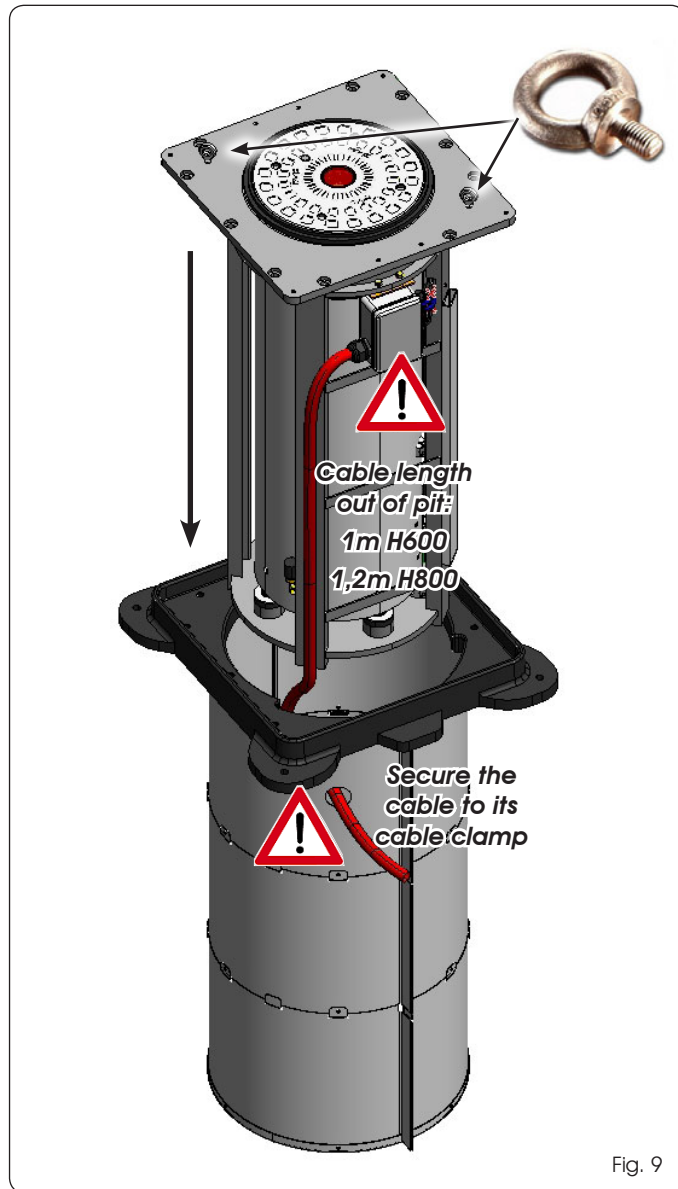

Fig. 9
**Take special care when positioning the cable between pit and bollard during the descent as well as to the junction box located on the bollard side (see fig. 9)**